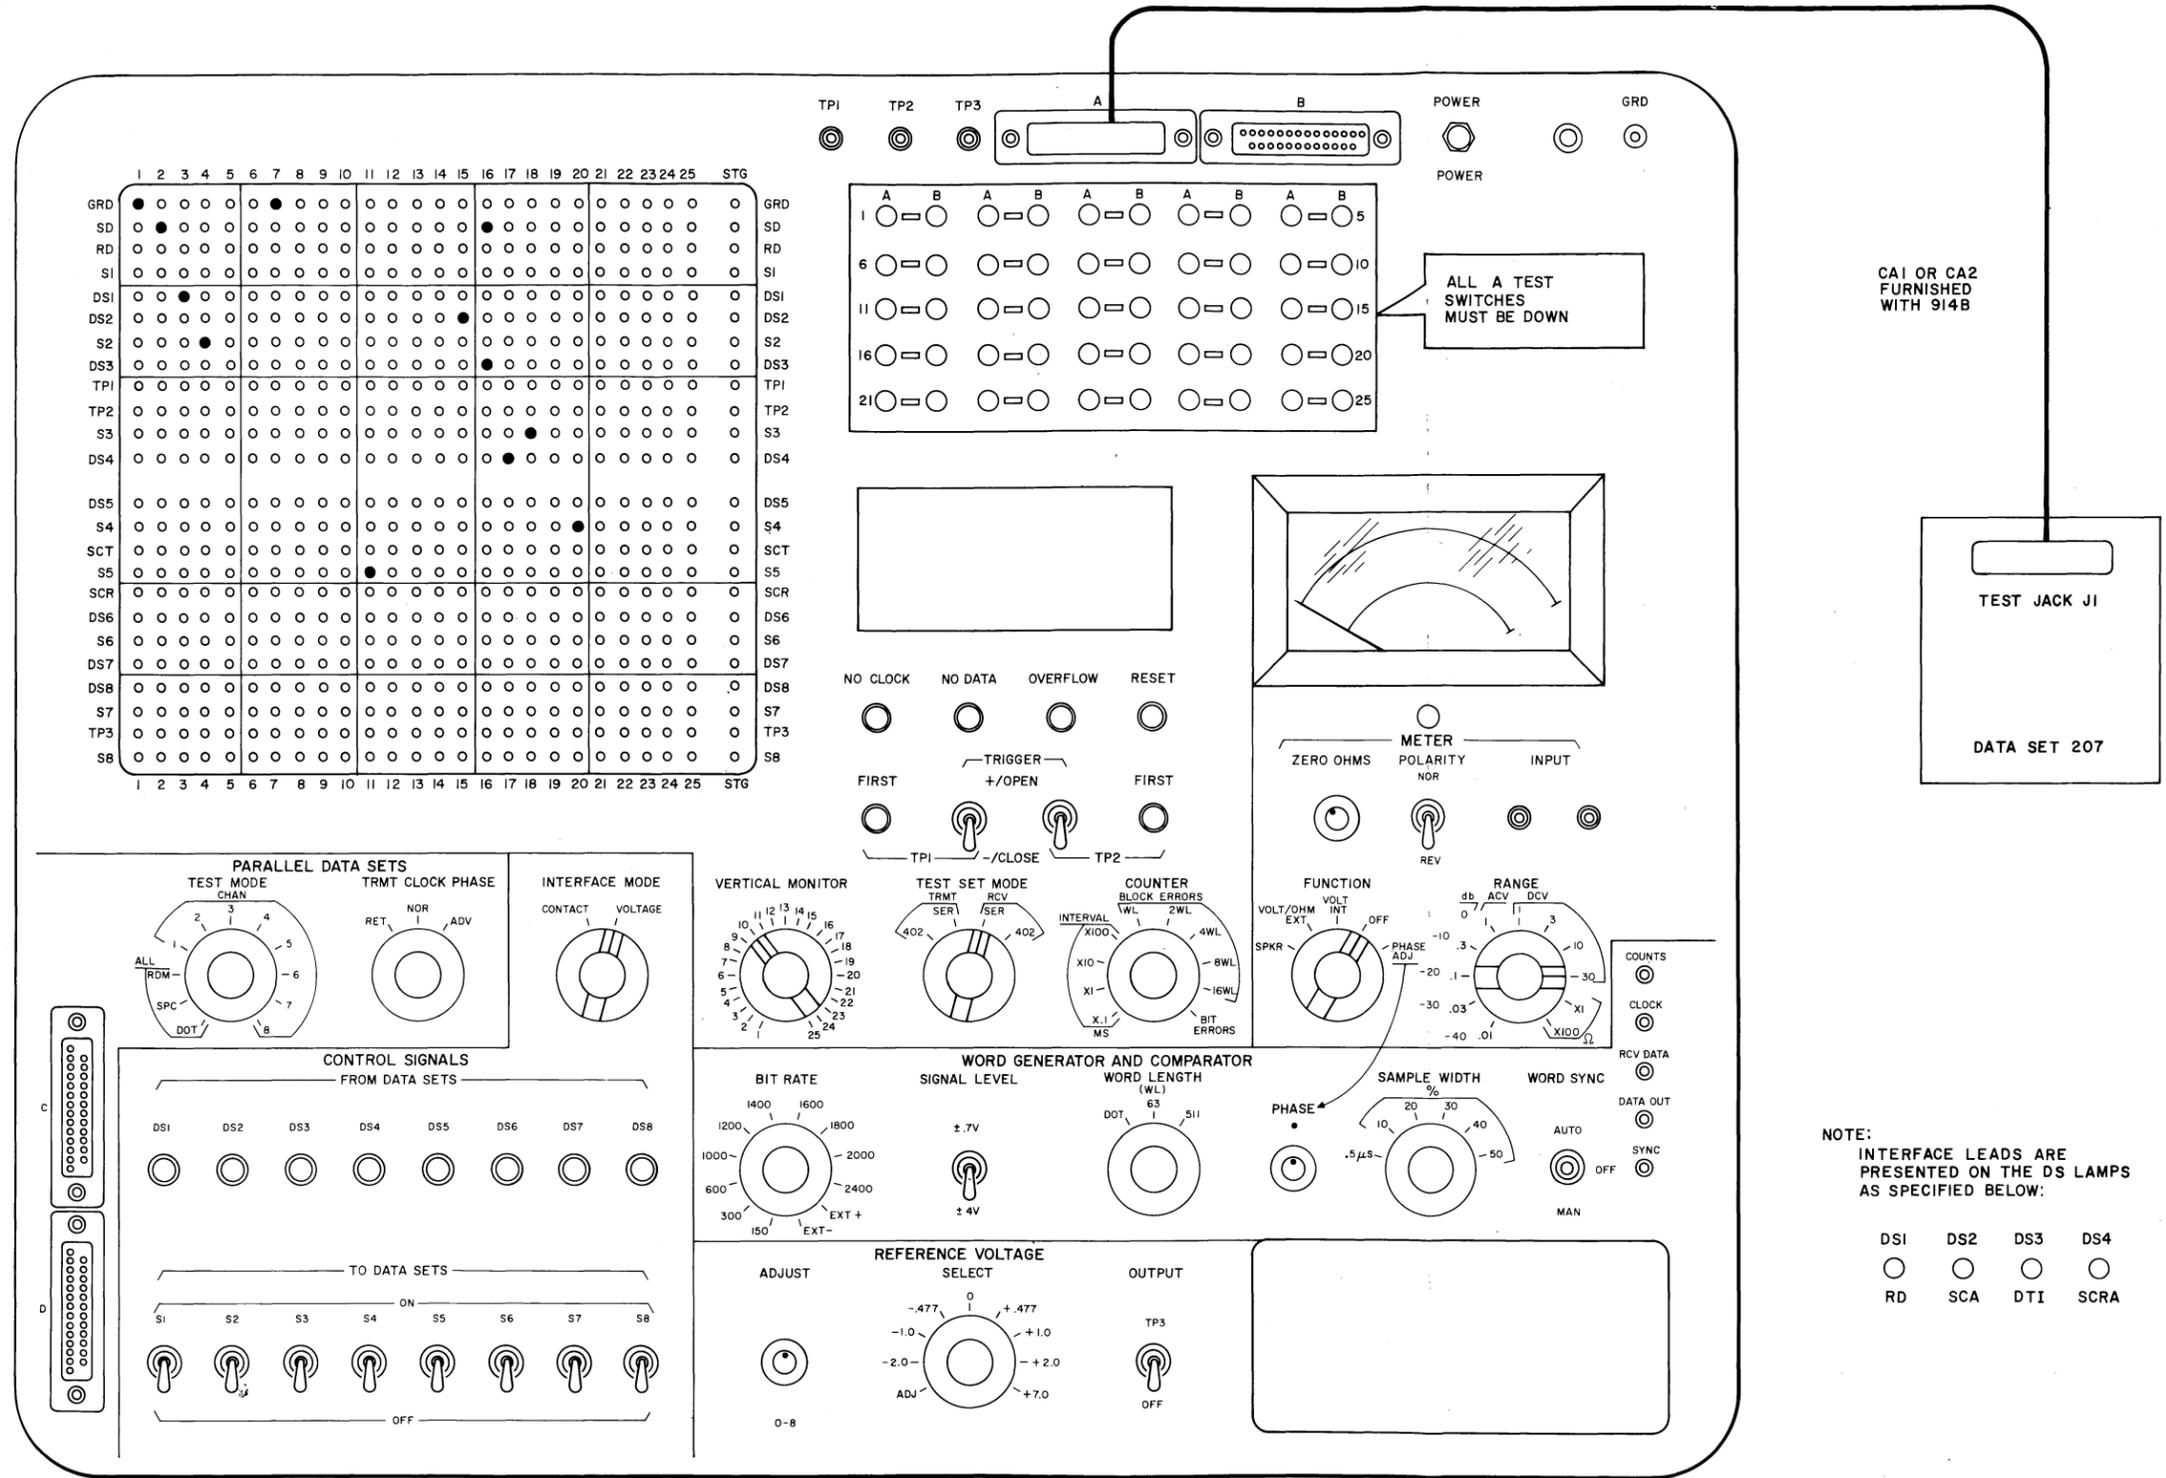

Fig. 1—Interface Test of Terminator Data Set
- (c) Disable the transmitter by connecting a clip lead between test point TP5-B19 (TL) and the metal frame.
- (g) Condition the 914B DTS by inserting matrix pins and setting switches as shown on Fig. 1.